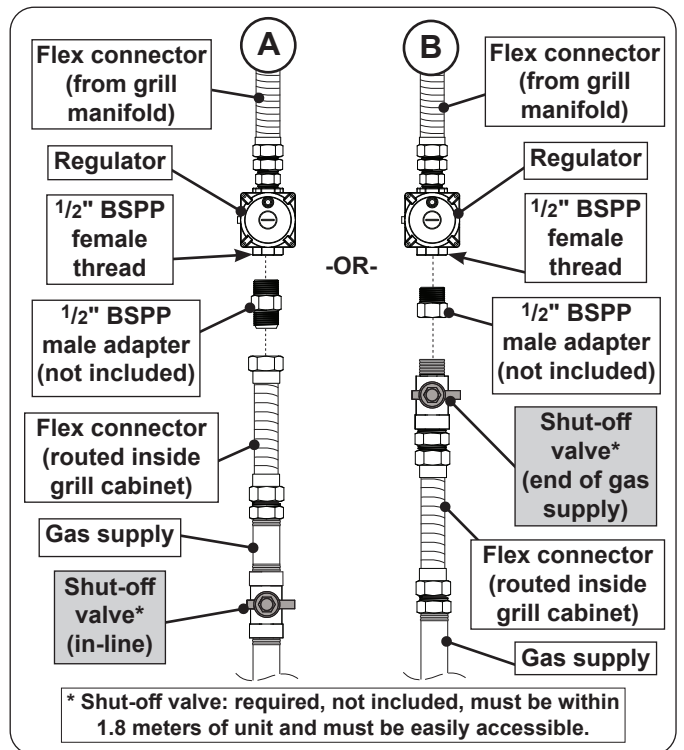

Fig. 18-2 Connecting to a gas line
- Install the gas supply to the regulator (1/2" BSPP female) using a 1/2" BSPP adapter (not included) (see Fig. 18-2, A). Tighten securely.
- Connect the shut-off valve (1/2" BSPP male) to the regulator (1/2" BSPP female) (see Fig. 18-2, B). Tighten securely.